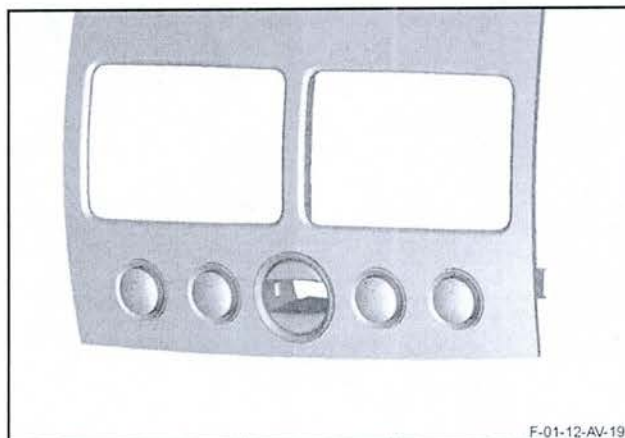

Figure 10
17. Install the ignition switch bezel assembly into the veneer bezel (refer to Figure 10).